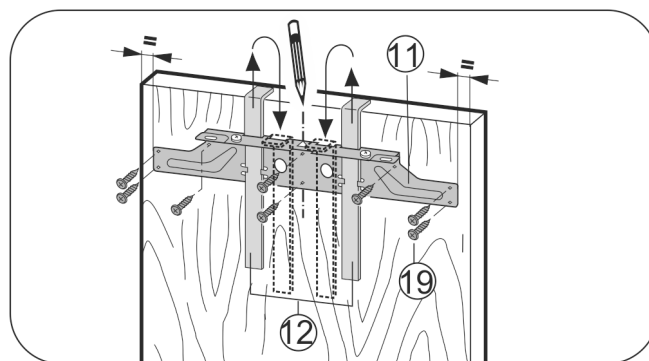

Fig. 26
- ▶ Attach fastening crosspiece Fig. 26 (11) to the inside of the unit door using the assembly aids Fig. 26 (12).
- ▶ Align the crosspiece Fig. 26 (11) in the middle of the door.
- ▶ Secure the fastening crosspiece Fig. 26 (11) with at least 6 screws Fig. 26 (19).
- ▶ Secure the fastening crosspiece Fig. 26 (11) with 4 screws Fig. 26 (19) at the edge.
- ▶ Raise the assembly aids Fig. 26 (12) for removal, turn them and insert them into the adjacent openings.